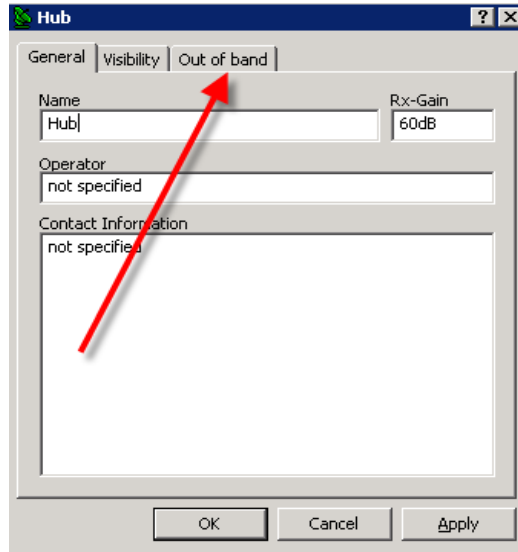

Figure 6-9 Out of Band Antenna Tab
3. Right click on the antenna, click the properties page and select the Out of Band tab as shown in figure 6-9 below: